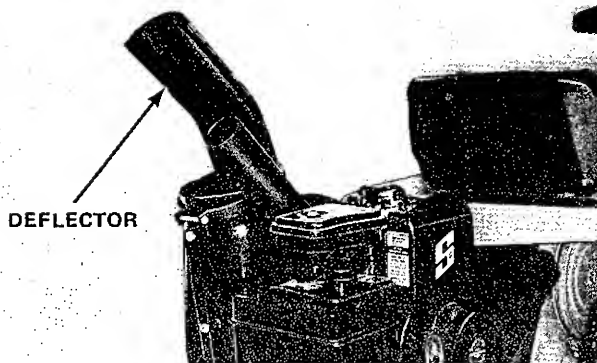

FIGURE 5
7. Attach the hose deflector plate to the top of the blower housing. The deflector fits on the outside of the blower outlet. Secure with the two No. 10 self-tapping screws. (See Figure 5).